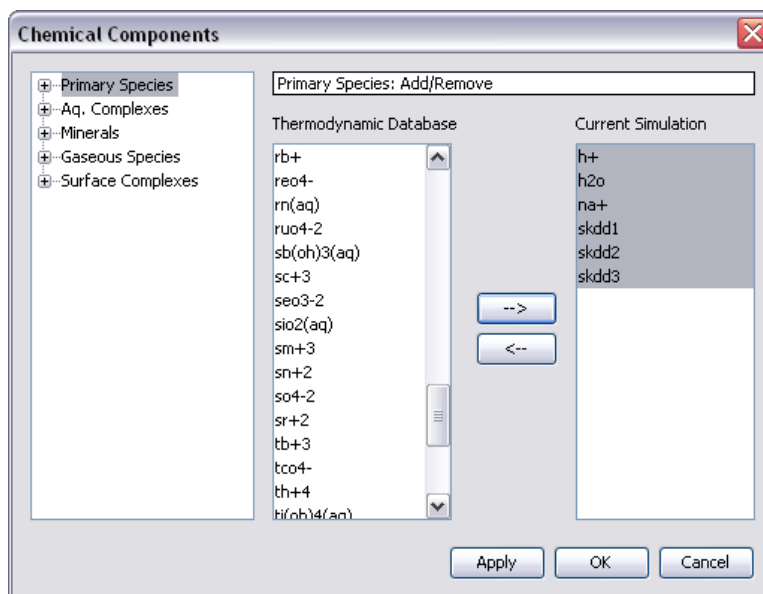

Figure 2.4. Primary Species
3. Click the --> button to move the selected species into the **Current Simulation** list on the right, as shown in Figure 2.4.